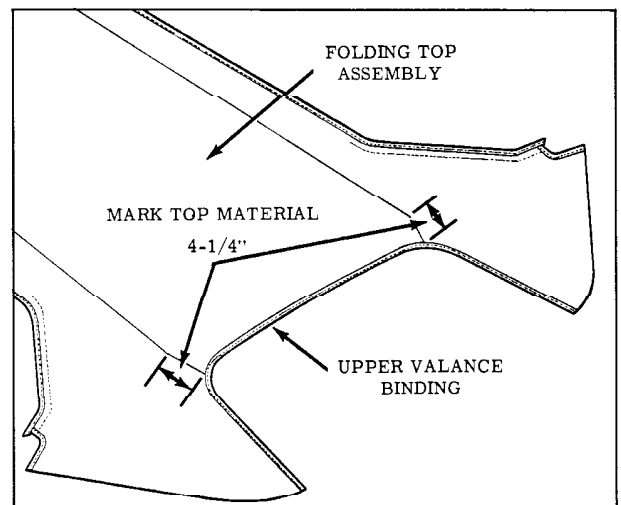

Fig. 17-140 Marking Top Material
- 22. Using a pencil, mark top material (mark should be approximately 1/2" in length) at deck seam 4-1/4" from edge of top material upper valance binding. (Fig. 17-140)